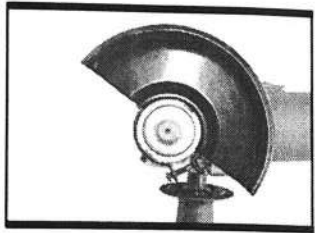

Fig. C1
2 ASSEMBLING THE PROTECTION GUARD (SEE FIG. C1-C3)
Align the projection on the guard with the indentation on the gear box. Put the Wheel Guard for Grinding (4) down firmly. (See Fig. C1) Loosen the clamping screw (8), if necessary.